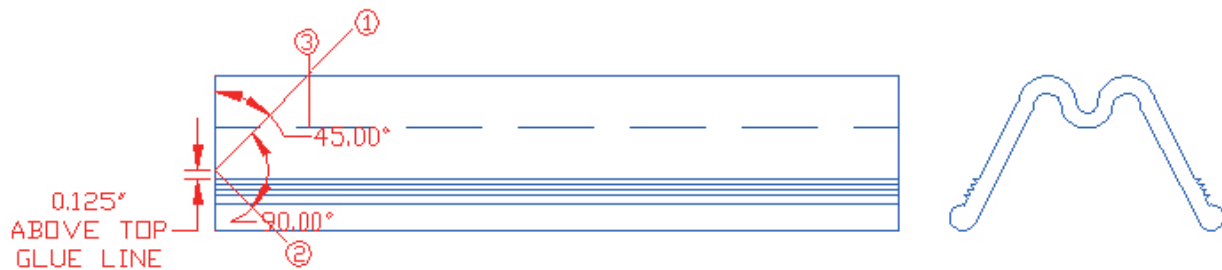

Figure 2 – Cuts required to make a 30°–60° upturn
- Cut the upturn section as shown in Figure 2.